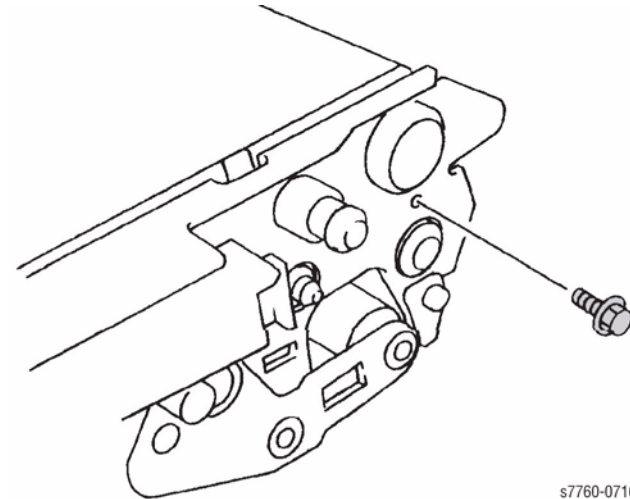

Figure 3 Removing Screws
5. Remove the 2 screws on both side of the IBT Belt Assembly (Figure 3).